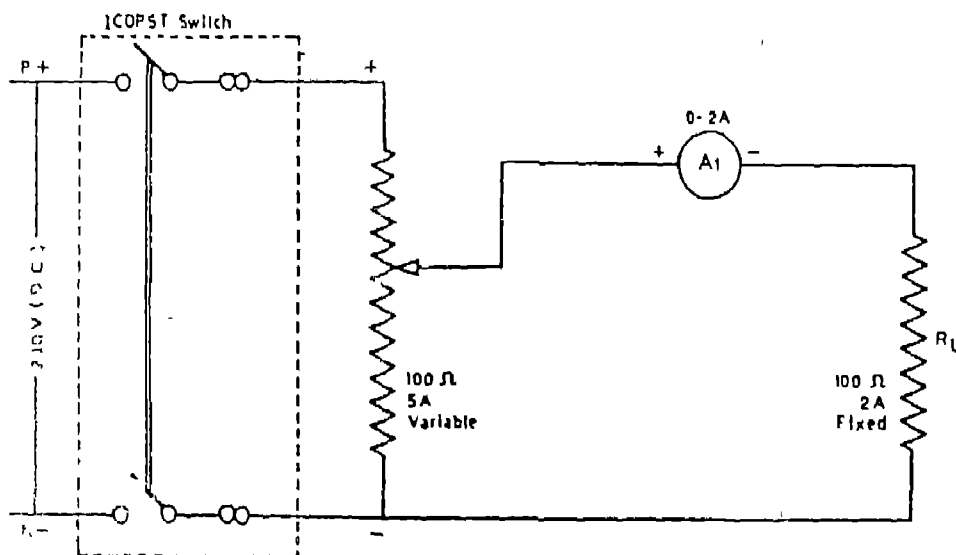

Fig. 5.1 Measurement of current
- (i) Make connection as shown in Fig 5.1